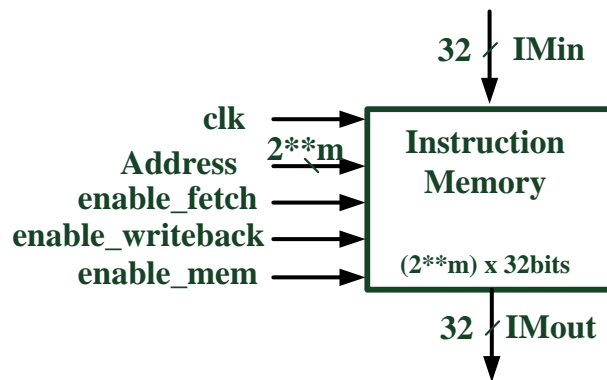

Figure 1-1 Conceptual Diagram of Instruction Memory
1. (20/250) Add in a $2^{10} \times 32\text{bit}$ instruction memory as shown in Figure 1-1 into the CPU system that designed in HW1-Part2-P4.